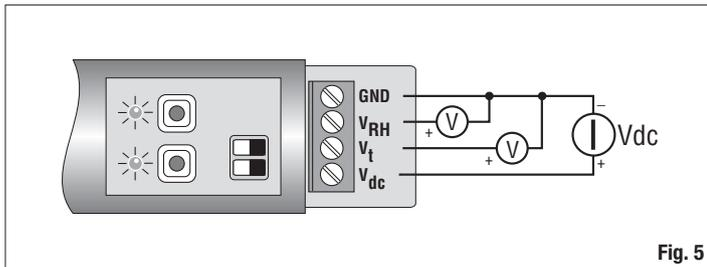
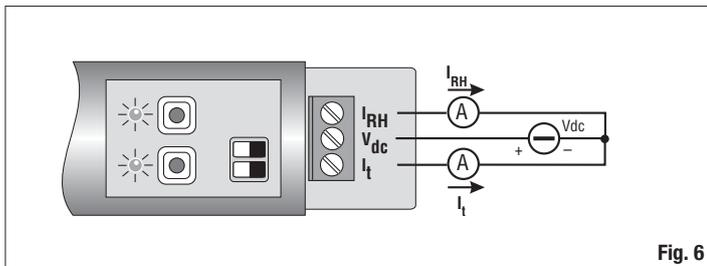

Fig. 5
Fig. 6
- Connect the wires to provide the instrument with power supply, as shown in the connection diagrams (Fig. 5: HD9008TRR and Fig.6: HD9009TRR).